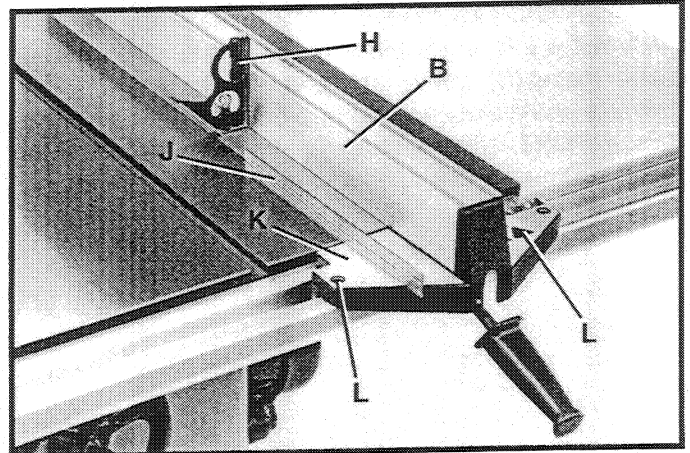

Fig. 30
5. Place a square (H) Fig. 30, on the table surface and against the rip fence (B) and a straight edge (J) on the table and fence body (K) as shown, and check to see if the rip fence is 90 degrees to the table surface and that the top of rip fence body (K) is flush with the table.
6. If an adjustment is necessary, rotate either of two screws (L) Fig. 30, until the rip fence is 90 degrees and level to the table surface.